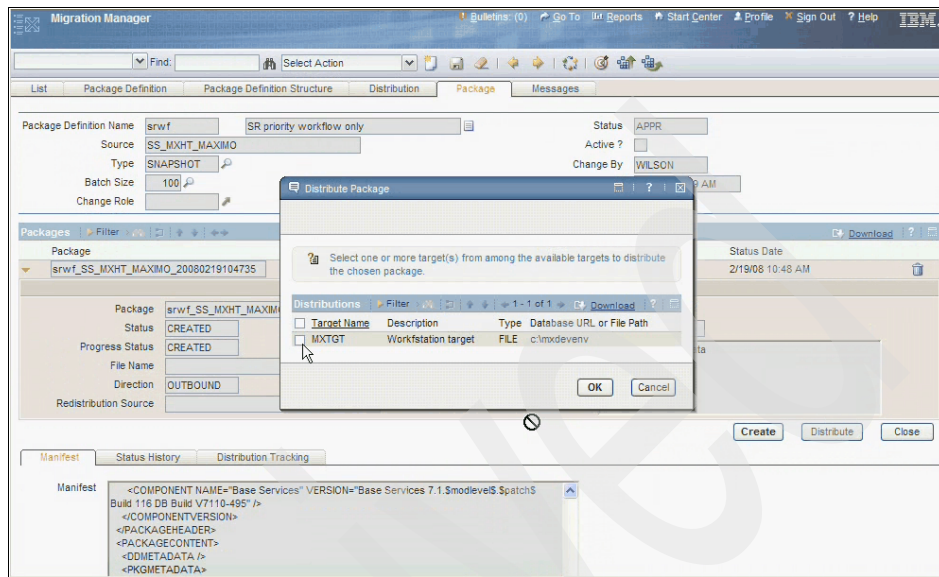

Figure 8-39 Package distribution targets
2. Select a target for distribution by clicking the appropriate check boxes, as shown in Figure 8-39.